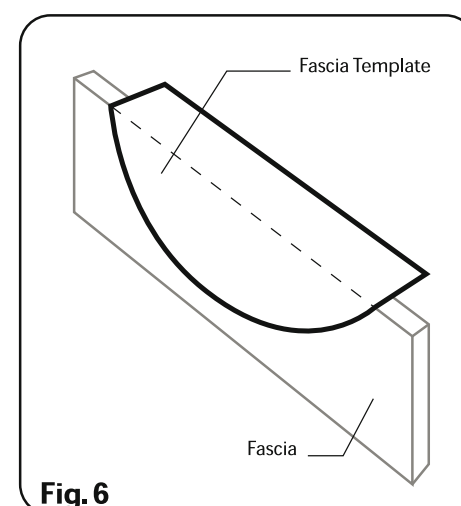

Fig. 6
4. Lay the cut out Fascia Template on the fascia aligning the centre line with the centre of the fascia marked in the previous step (See Fig. 6).